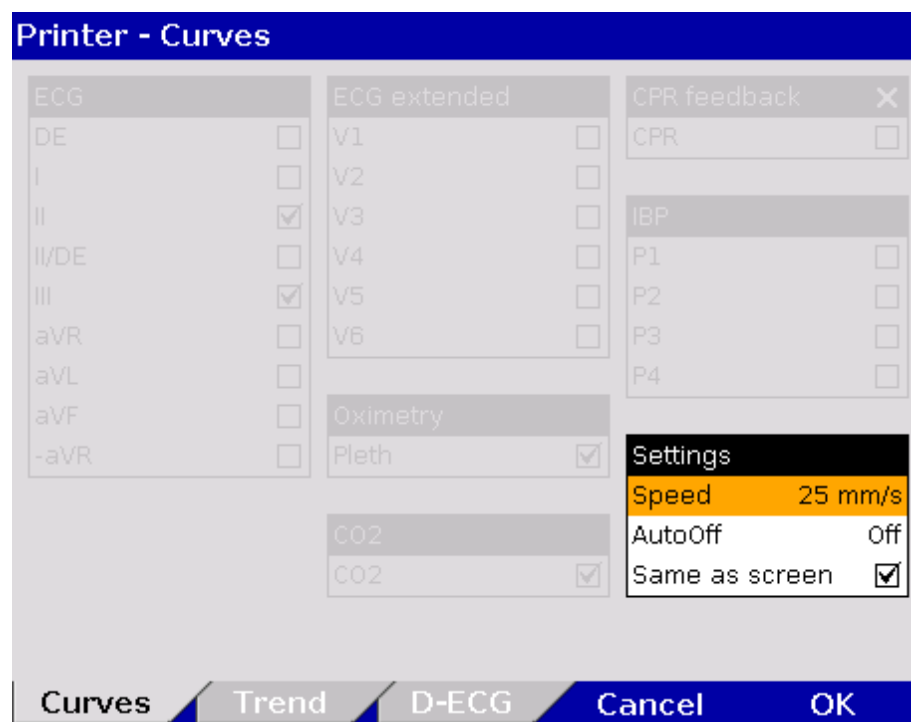

Fig. 7-5 Printer setting "Same as screen"
2. If in the group "Settings" the checkbox "Same as screen" is ticked, the curves currently displayed on the monitor are printed. The remaining areas of the configuration dialogue are greyed out (see Fig. 7-5).